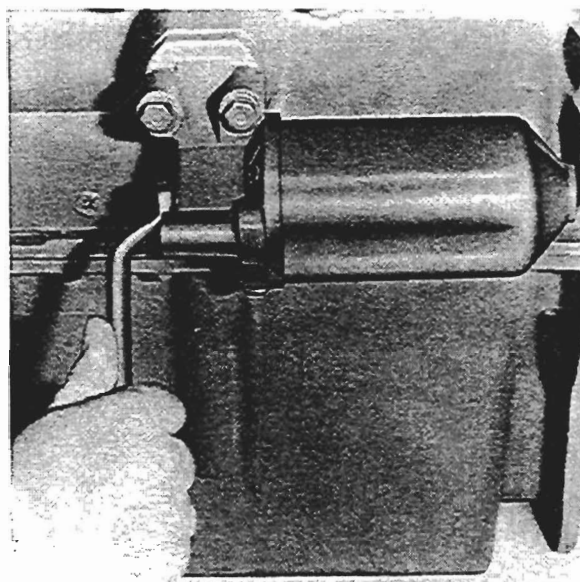

Fig. M2
1. Remove centre bolt on filter head (see fig. M2).